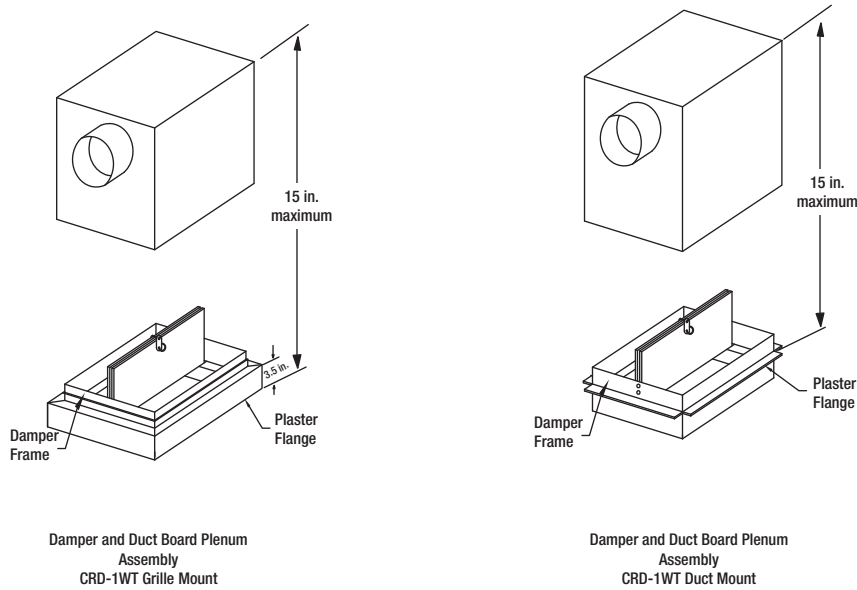

Figure 11
- 6) Plenum shall be attached to ceiling damper subframe using UL 181 listed tape (**Figure 11**).